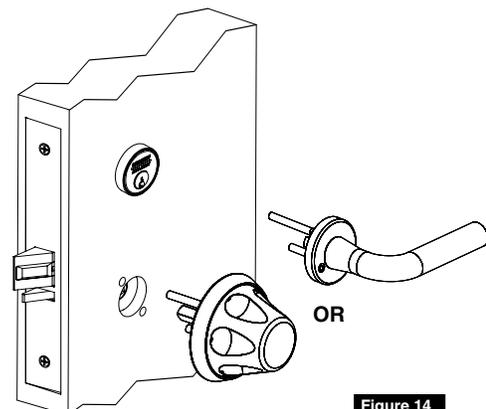

Figure 14
5. Slide outside knob assembly (or lever & rose assembly) onto door and lockbody. (Figure 14)